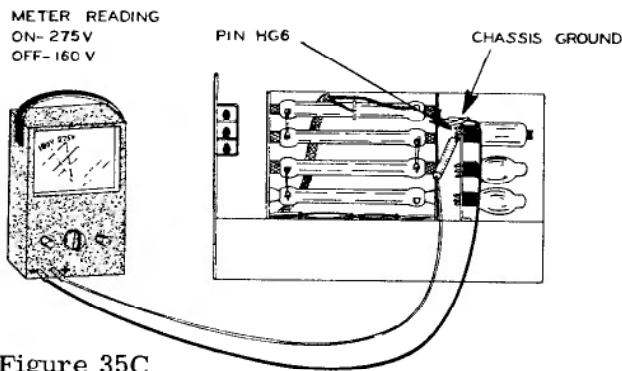

Figure 35C
- ( ) Connect the positive lead of a Volt-Ohm-Milliammeter to chassis ground, negative lead to pin HG6 of the 6DQ6 clamp tube (this pin has a 33 K $\Omega$  1 watt resistor and a green wire connected to it and can be reached with an insulated probe from the side of the control tube mounting bracket). See test setup shown in Figure 35C.